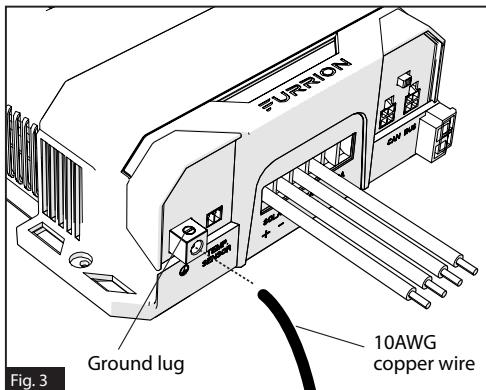

Fig. 3
3. Loosen the ground lug screw located on the left side of the mounting bracket. Insert a 10AWG copper wire from this lug to chassis ground. Tighten the ground lug screw securely. The suggested torque force should be 25lbs-inch. (Figure 3)